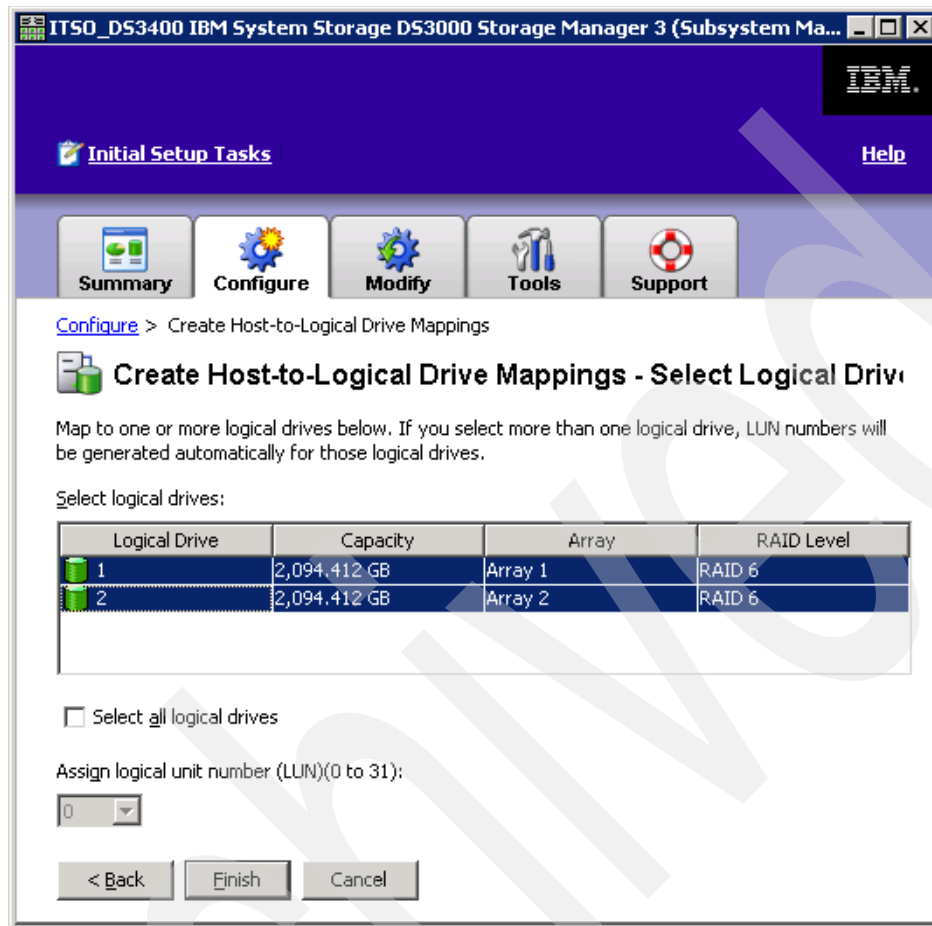

Figure 9-36 Create Host-to-Logical Drive Mappings - Select Logical Drives
2. Select one or more logical drives to map to the host or group. We selected both the logical drives just created, called 3 and 4 (see Figure 9-36).